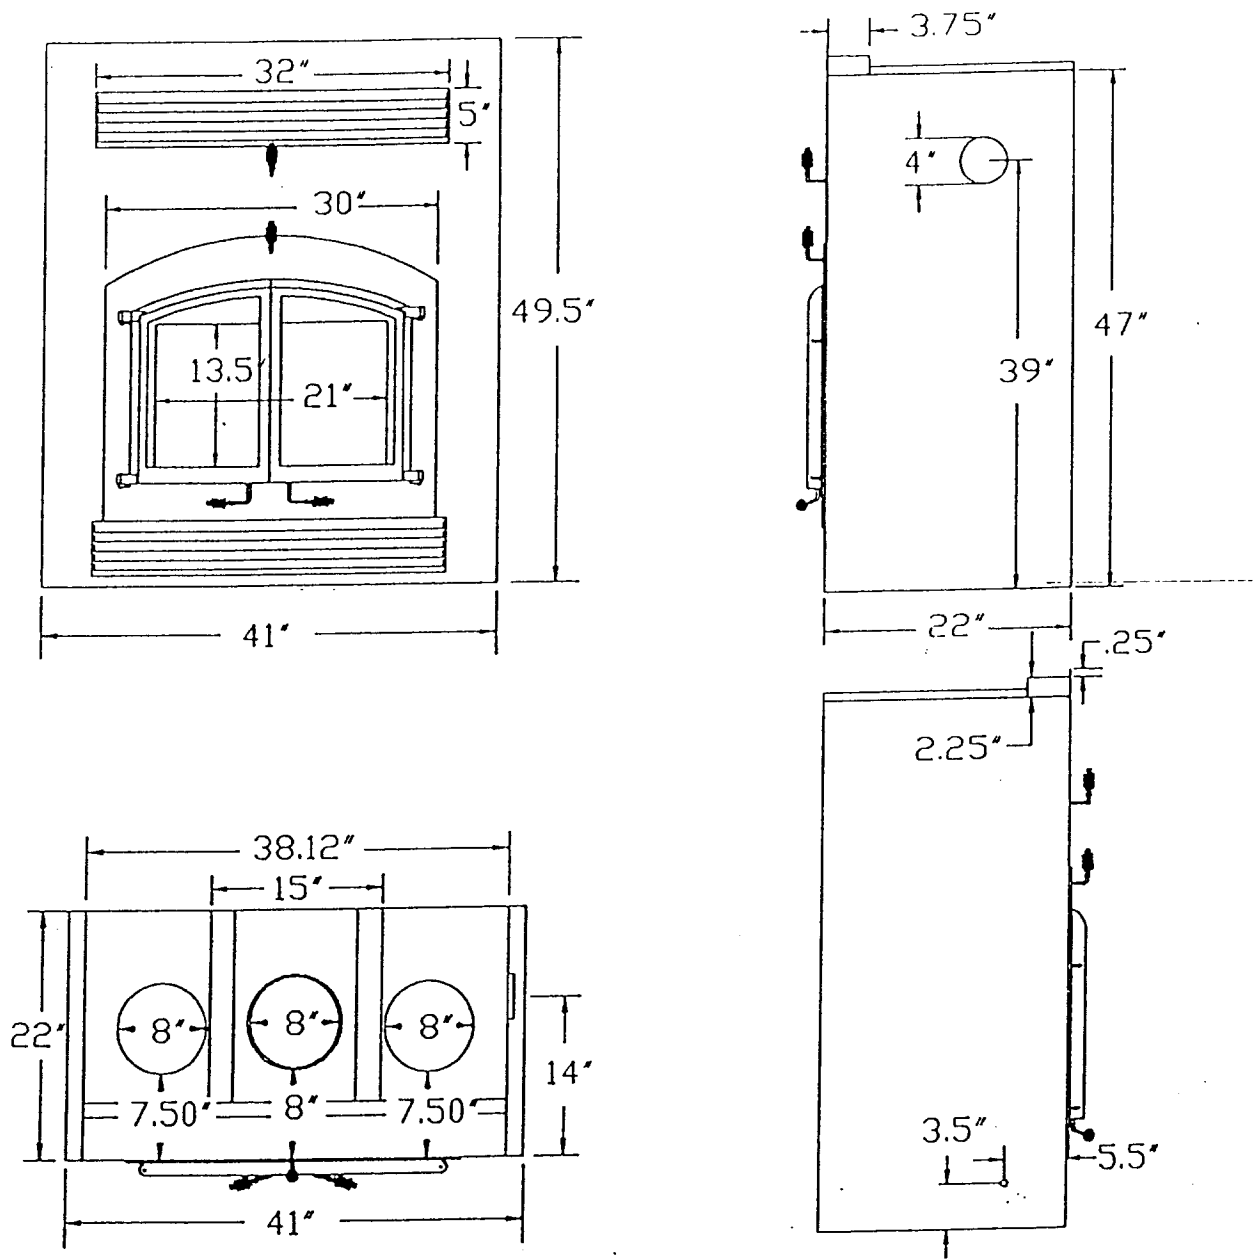

FIG. 1
**A. SPECIFICATIONS. See Figure 1.**